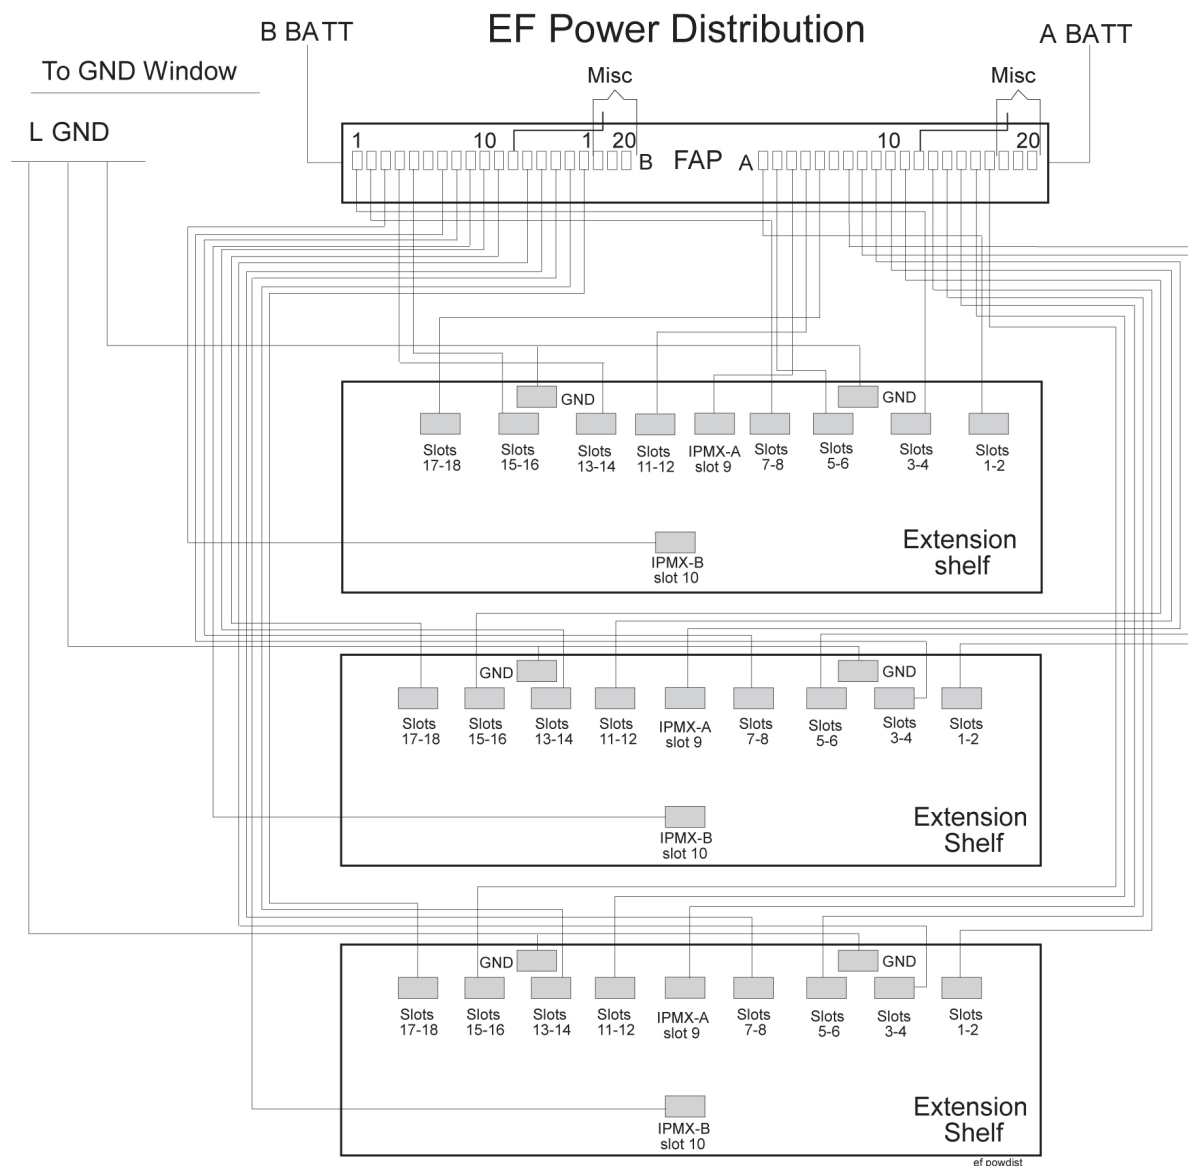

Figure 62: Extension Frame FAP (P/N 870-0243-08 and P/N 870-1606-xx)
- Extension frame, Figure 62: Extension Frame FAP \(P/N 870-0243-08 and P/N 870-1606-xx\)